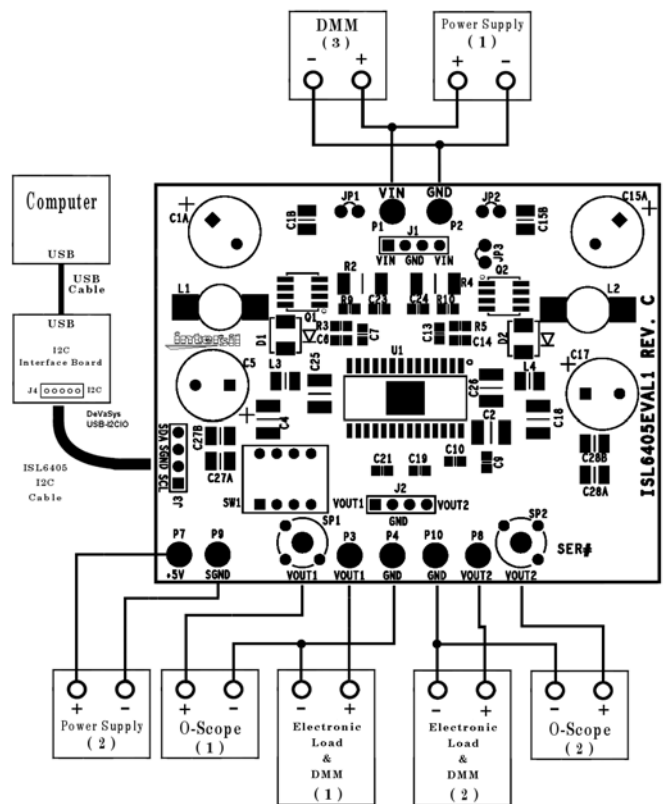

FIGURE 3. ISL6405 TEST SETUP
7. To connect the USB-I2CIO board to the ISL6405 evaluation board, use the 5-pin to 4-pin connector cable. Connect the 5-pin connector to J4 on the USB-I2CIO board and the 4-pin connector to J3 on the ISL6405 evaluation board. Figure 3 shows the test setup configuration to evaluate the ISL6405 evaluation board.